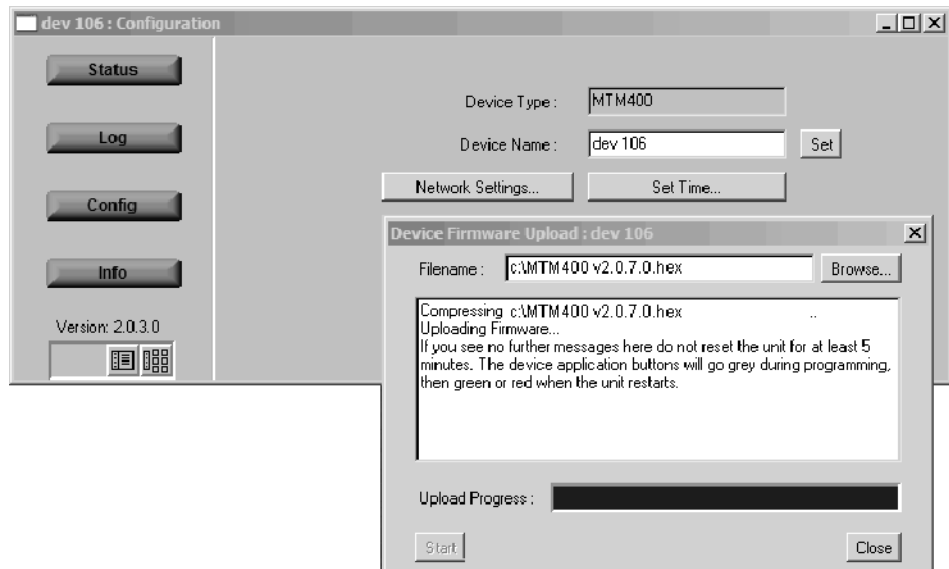

Figure 8: Completing the BIOS upload
7. When all four buttons in the Device view have been active (colored red, green, or yellow) for longer than 20 seconds, and the progress bar in the Device Firmware Upload dialog is full as shown in Figure 8, the BIOS Loader is successfully loaded.